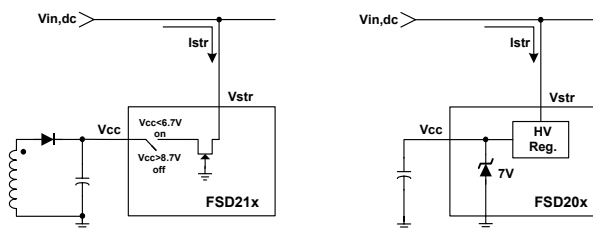

Figure 2. Internal startup circuit
1. Startup : At startup, an internal high voltage current source supplies the internal bias and charges the external Vcc capacitor as shown in Figure 1. In the case of the FSD210, when Vcc reaches 8.7V the device starts switching and the internal high voltage current source is disabled. The device continues to switch provided that Vcc does not drop below 6.7V. After startup the bias is supplied from the auxiliary transformer winding. In the case of FSD200, Vcc is continuously supplied from the external high voltage source and Vcc is regulated to 7V by an internal high voltage regulator (HV Reg). The internal startup switch is not disabled and an auxiliary winding is not required. Figure 2.